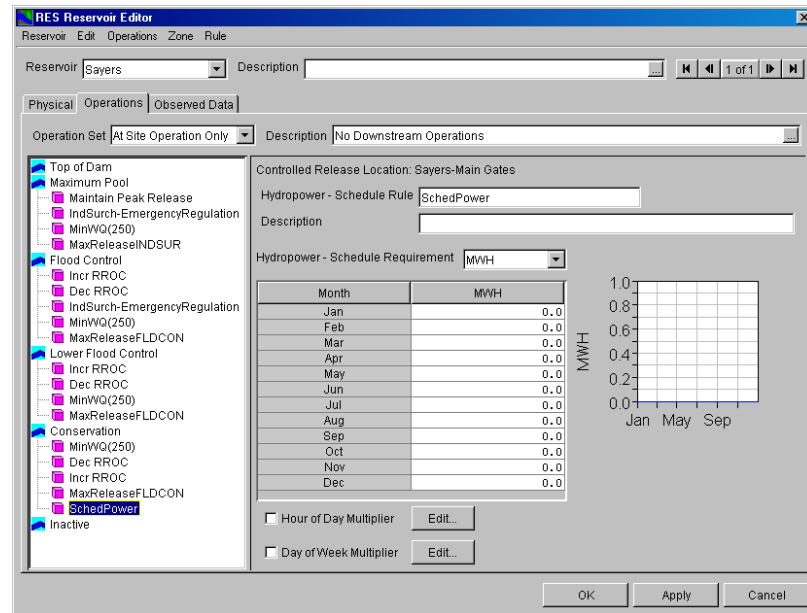

Figure 11.28 Hydropower – Schedule Rule Editor
2. Highlight the appropriate rule in the operations tree to access the **Hydropower – Schedule** rule editor (Figure 11.28). The name and description of the rule will appear in the **Hydropower – Schedule** rule and **Description** fields.